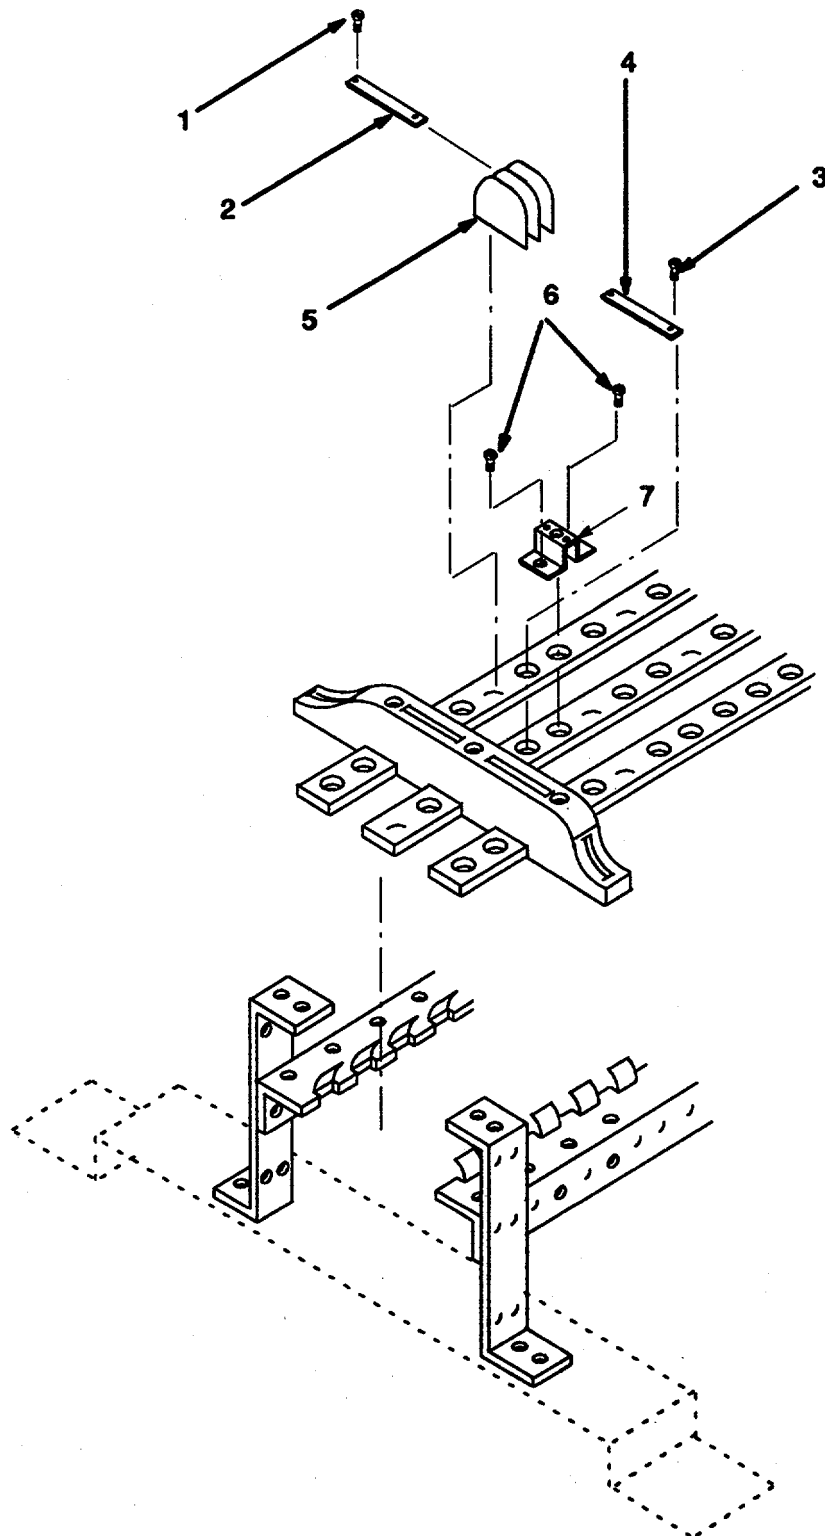
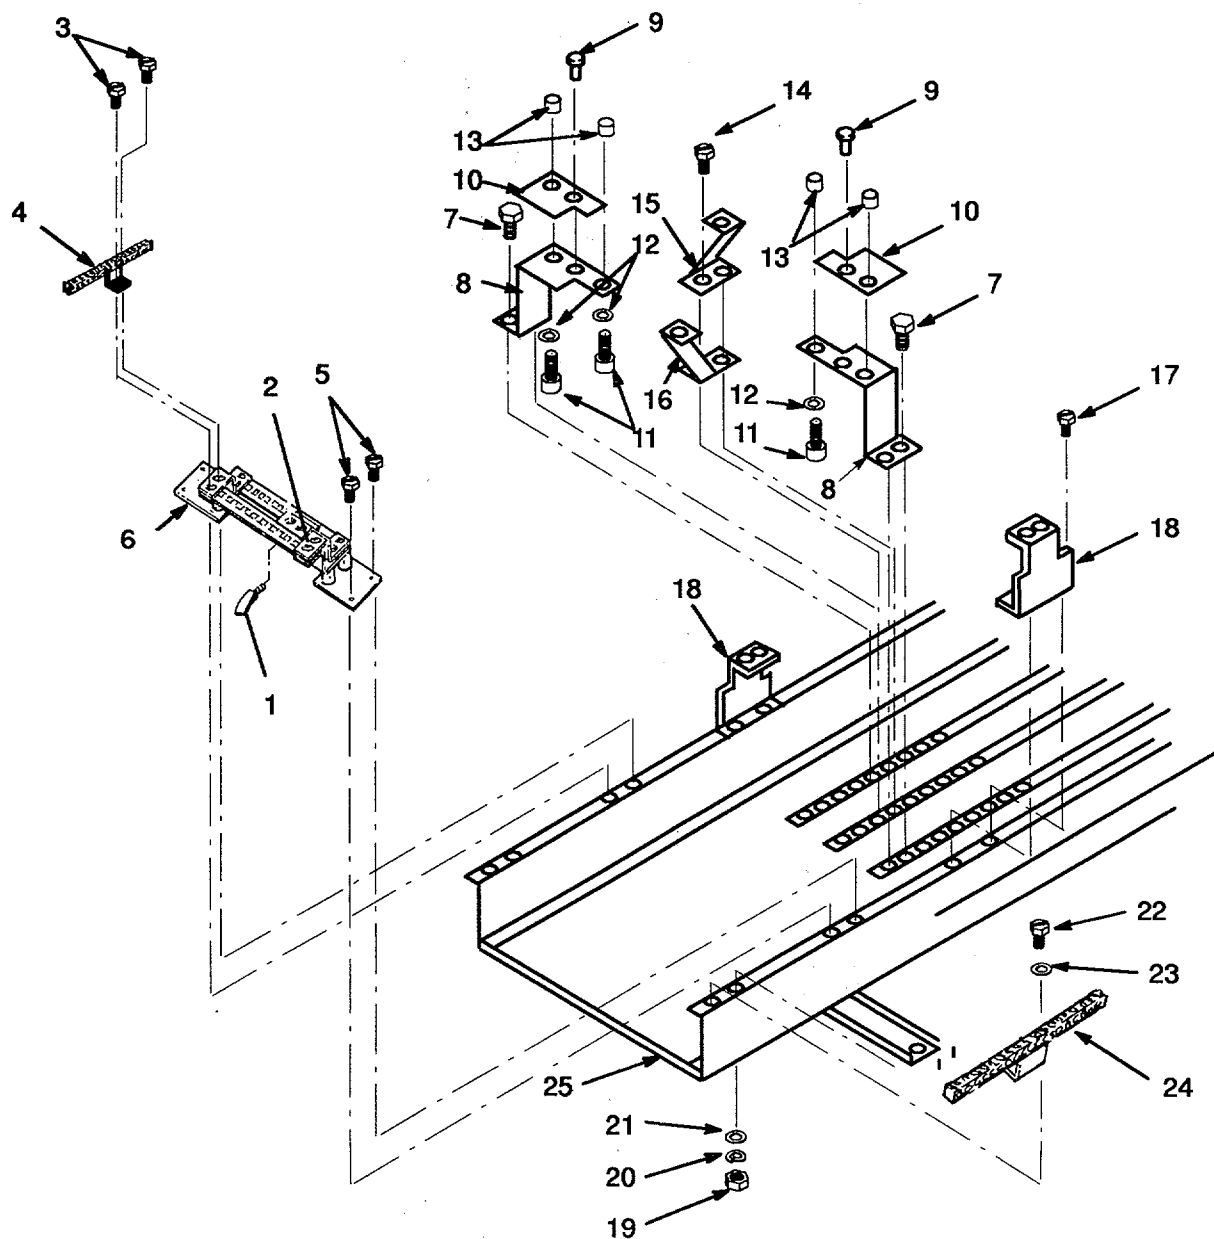

Figure 5-4. Interior Panel Board Assembly.
Figure 5-5. Interior Panel Board Assembly.
- (1) Remove eighteen screws (1 and 3, Figure 5-4), eighteen sub chassis connectors (2 and 4) and nine isolator blocks (5).
- (2) Remove eighteen screws (6) and nine mounting brackets (7).
- (3) Tag and identify two cables (1, Figure 5-5). Loosen two set screws (2) and remove cables (1) from connectors.
- (4) Tag and remove leads from neutral bus bar (4).
- (5) Remove two screws (3) and one neutral bus bar (4).
- (6) Remove four screws (5) and neutral bus bar bracket (6) from Z-rail (25).
- (7) Remove four screws (7) and two bus bar connectors (8).
- (8) Remove two plastic rivets (9) and two breaker insulations (10). Discard plastic rivets.
- b. Install leads in bus bar (24) and remove tags.
- c. Install two KD mounting brackets (1 8) on Z-rail (25) with four screws (1 7). Tighten four screws.
- d. Place short bus connector (15) on top of bus connector (1 6) and install on middle bus bar with two screws (1 4). Center the two bus connectors (15 and 16) and tighten screws (1 4) per Appendix H.
- e. Install four connector spacer pads (13) on bus bar connectors (1 5 and 1 6) with four flat washers (1 2) and screws (11). Torque screws per Appendix H.
- f. Attach two bus bar connectors (8) to outer main bus bars with four screws (7). Align connector spacer pads (13) and tighten screws.
- g. Attach two breaker insulations (10) to two bus bar connectors (8) with two new plastic rivets (9).
- h. Attach neutral bus bar bracket (6) to Z-rail (25) with four screws (5). Tighten screws.
- i. Attach neutral bus bar (4) to bus bar bracket (6) with screws (3). Tighten screws.
- j. Install leads on neutral bus bar (4) and remove tags.
- k. Install two cables (1) in connectors. Torque set screws (2) per Appendix H.
- l. Attach nine mounting brackets (7, Figure 5-4) to center sub chassis bus bar with eighteen screws (6). Tighten screws.
- m. Place nine isolator blocks (5) over mounting brackets (7) and install eighteen sub chassis connectors (2 and 4) with eighteen screws (1 and 3). Tighten screws.